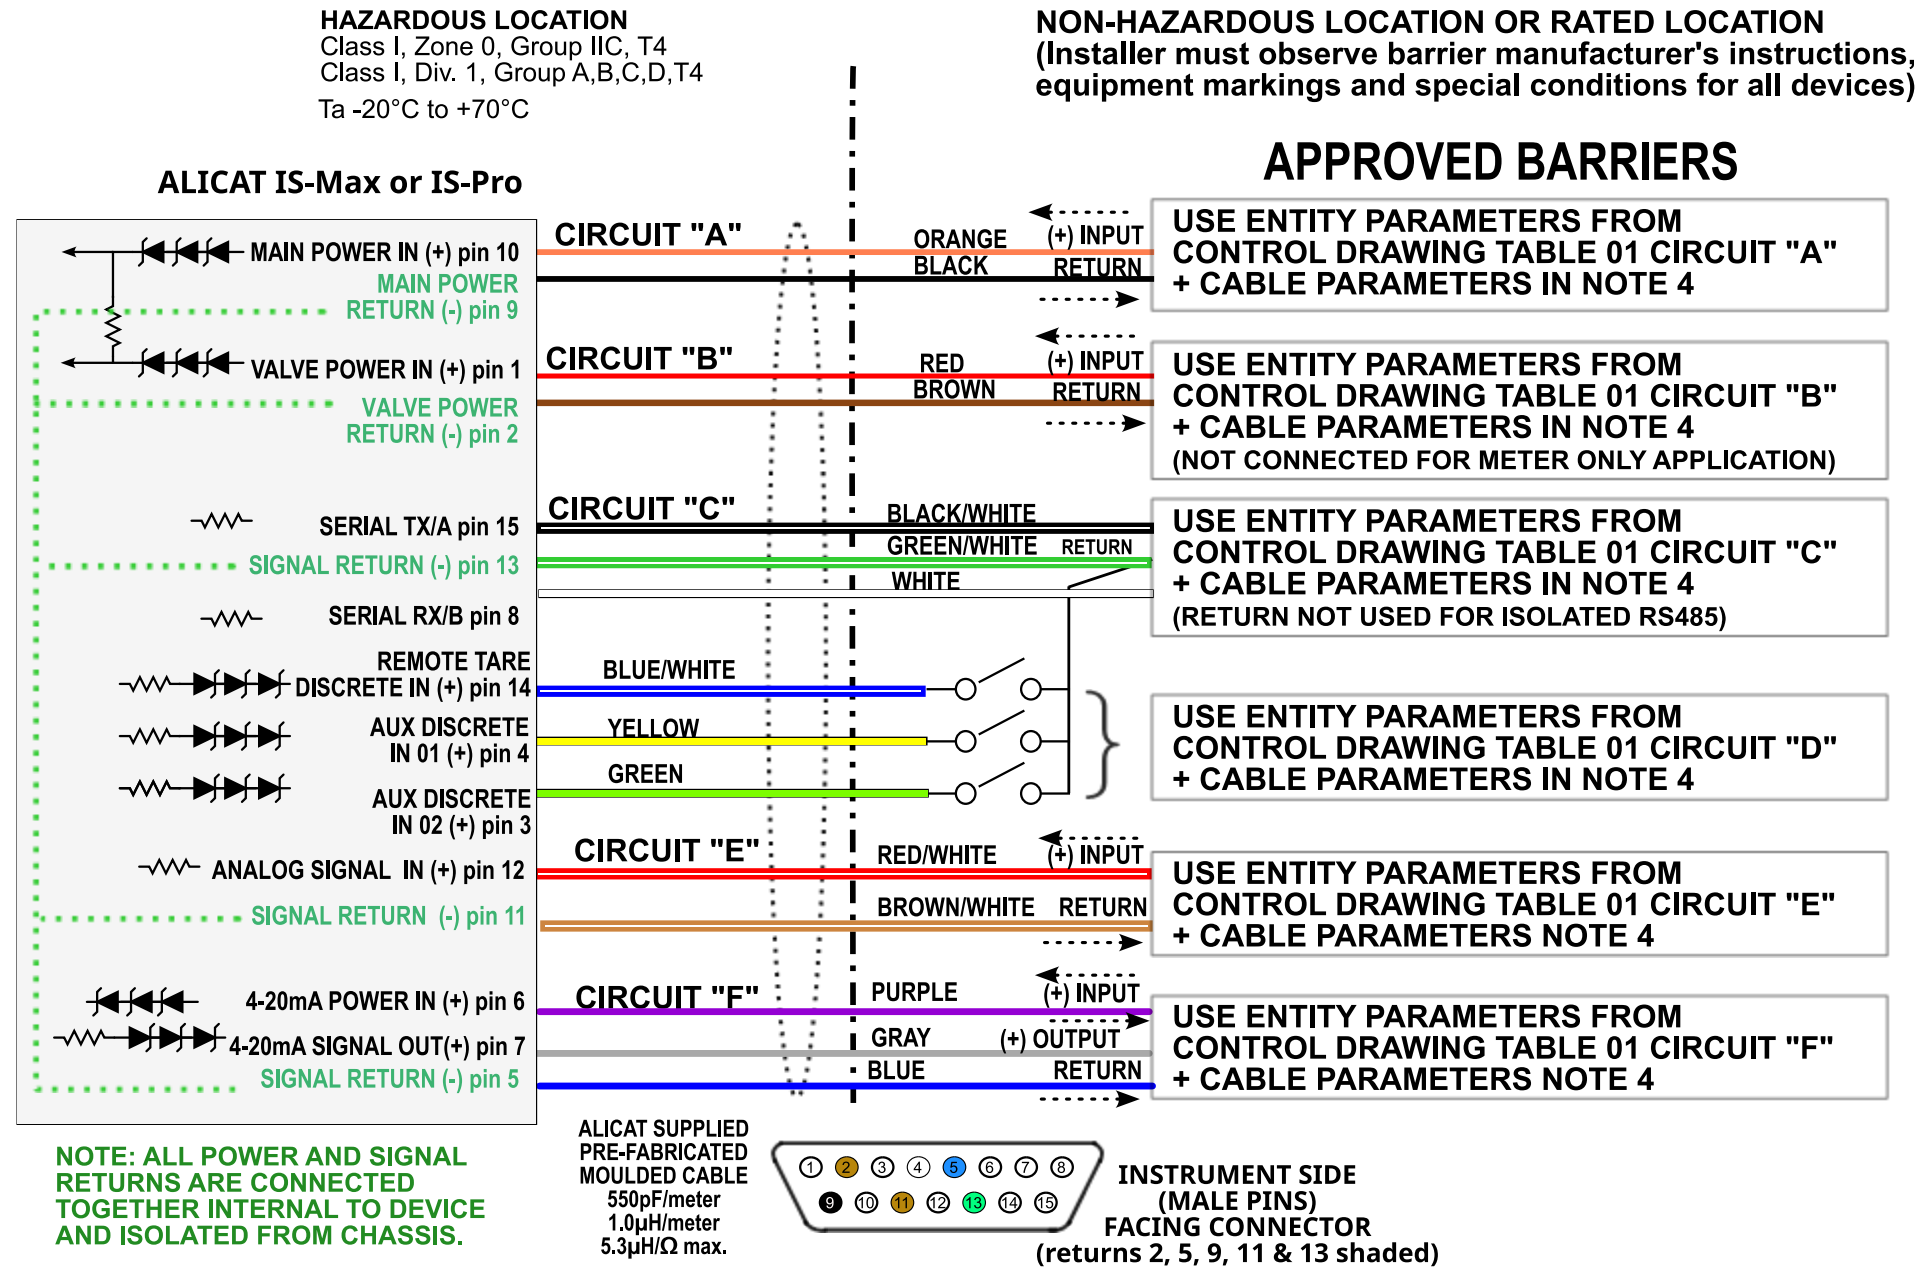

FIGURE 01 CONNECTION TO APPROVED BARRIERS
- Models with included valves require an additional barrier to power those valves as denoted by "CIRCUIT B" in Figure 01 of the control drawing.
- Models intended for use with external sensors will connect those sensors to the analog input denoted by circuit E in Figure 01 of the control drawing. These sensors must obey the entity parameters appropriate for circuit E/ Table 01 of the control drawing or use an intervening barrier which does.